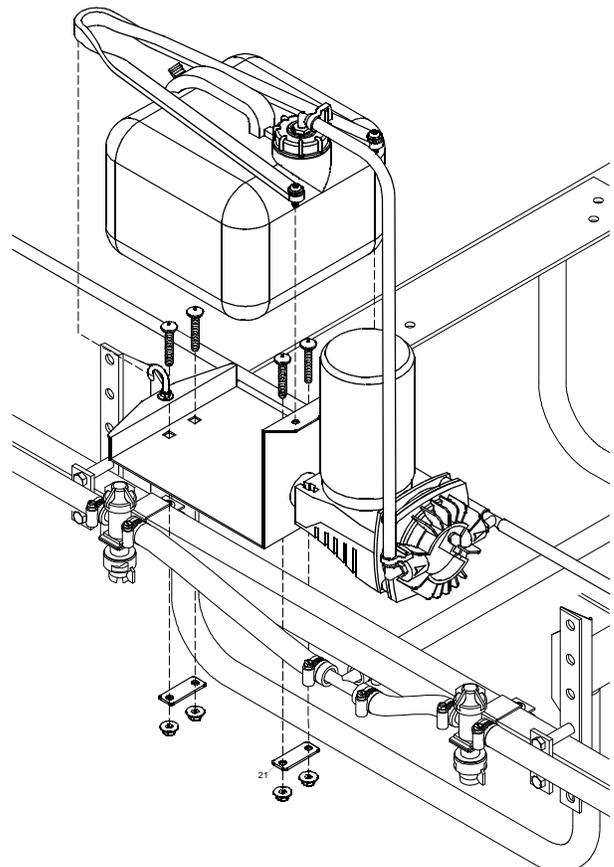

Figure 2: Foam Marker Unit Mounting
1. **If mounting the foam marker on a CropCare™ sprayer**, place on the center of the boom frame. (See Figure 2) Attach the foam marker by using the included 3/8" carriage bolts to clamp the foam marker frame around the main boom tube. The unit may be mounted in either direction on the boom.